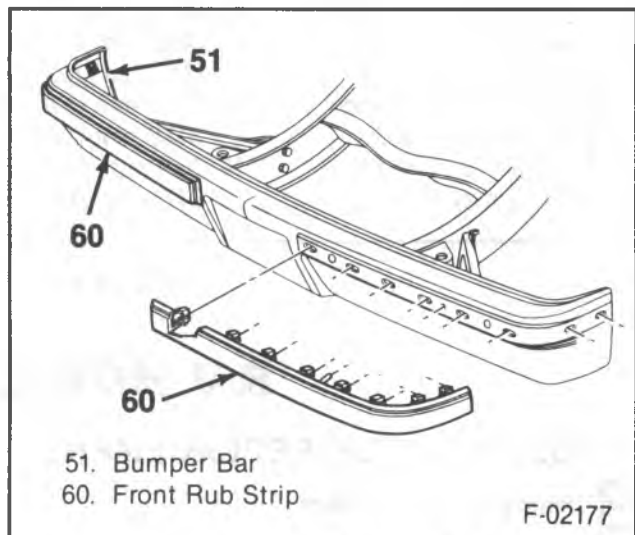

Figure 6 — R/V Front Bumper Rub Strip
5. Rub strips from the bumper and guards (where used) (figure 6).